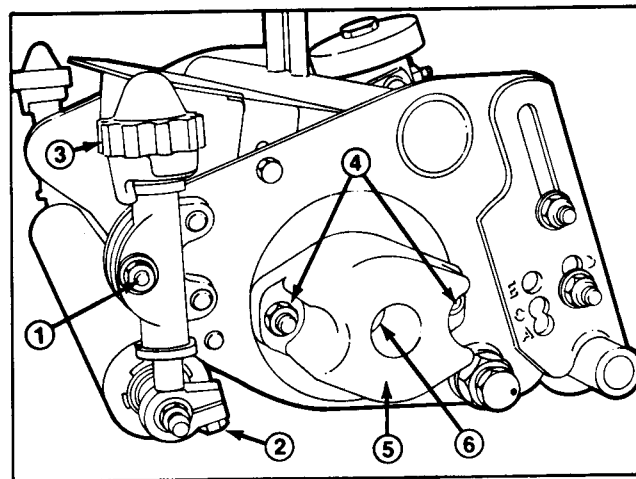

Figure 35
A. Loosen locknuts securing height of cut adjusting rods at both ends of cutting unit and roller shaft clamp bolts (Fig. 35).
B. Turn height of cut adjustment knobs to raise roller out of the way or remove roller if necessary (Fig. 35).
2. Remove counterbalance end cap from left hand side of the cutting unit (Fig. 35). Remove large bearing adjustment nut from one end of reel shaft (Fig. 35) and special spline nut at opposite end of reel shaft.